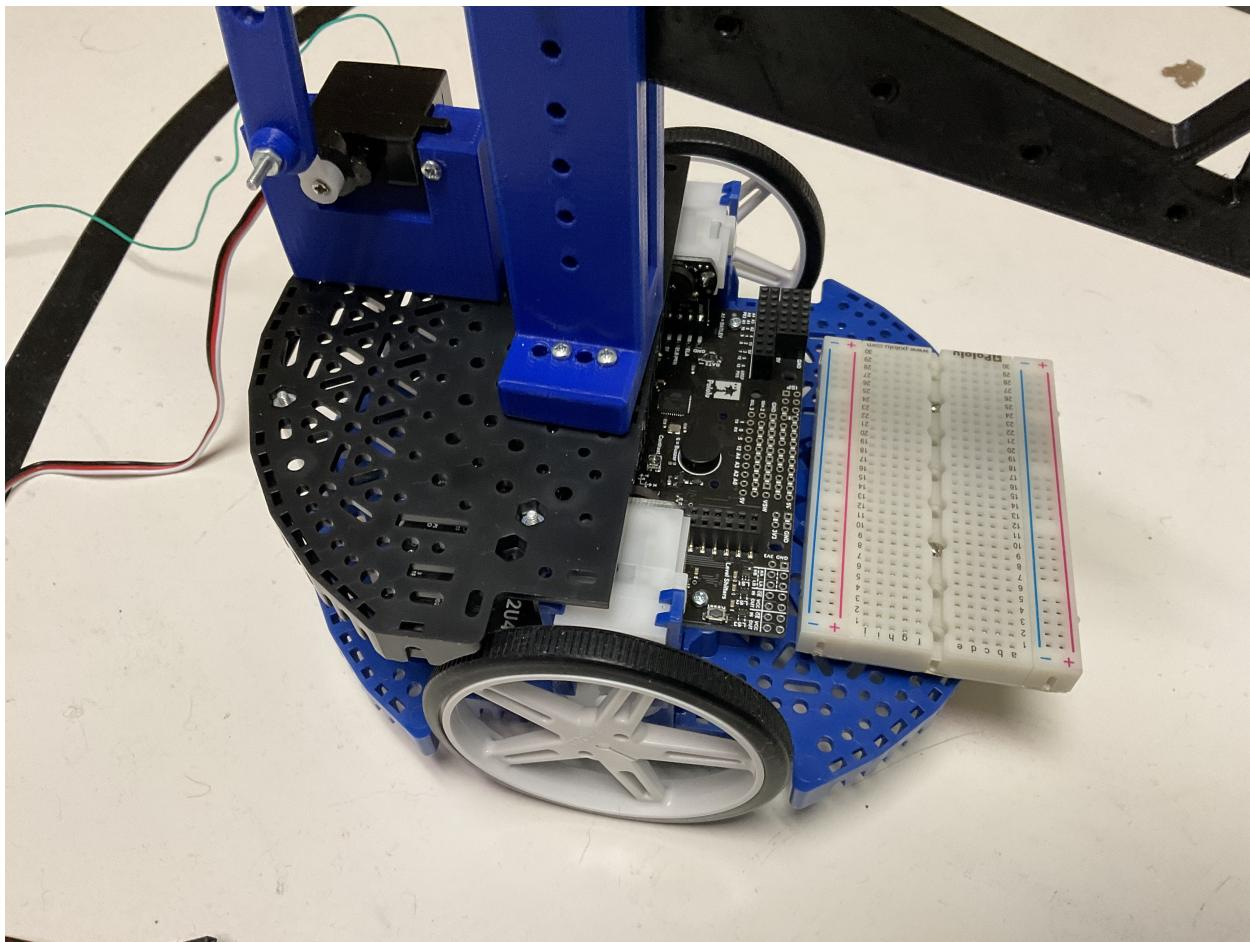

Figure 9: Romi with breadboard mounted.
- (a) Using the plastic tubing in your kit, cut (2) 1/4" lengths to be used as spacers. Using 3/4" screws, mount the breadboard to the base with the spacer between the breadboard and the chassis, as shown in Figure 9. Alternatively, you can just use tape or a rubber band to hold the breadboard to the Romi, but do not remove the backing paper on the breadboard – you’ll never get it off if you want to move it later!